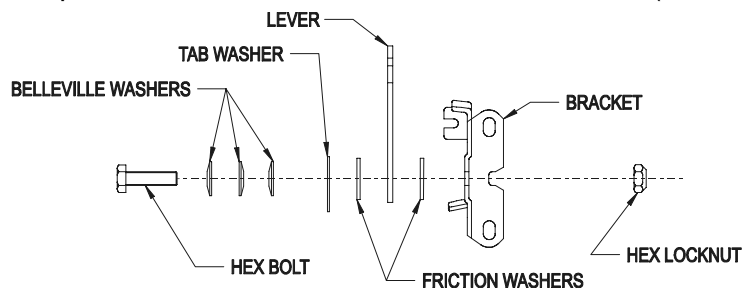

FIGURE 11
- b) Tension in throttle lever can be adjusted by adjusting the tightness of the lever pivot bolt, which is located under the console (See Figure 11).